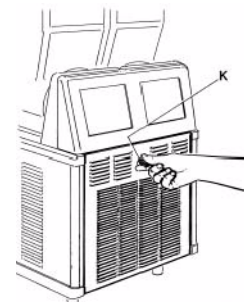

FIGURE 22
2. Unscrew the knob (K) in order to remove back panel (see Figure 22).
4. Replace the clean filter inside the back panel and reinstall the back panel on the machine (see Figure 22).